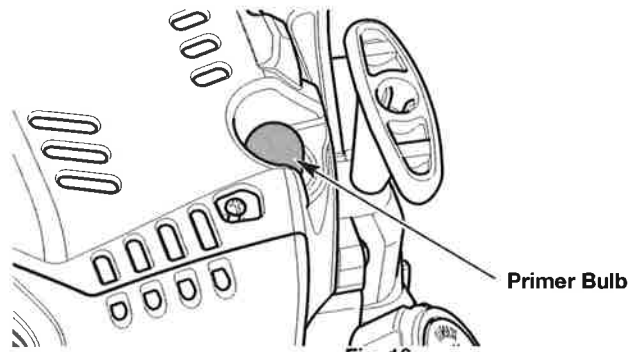

Fig. 16
3. Slowly press and release the primer bulb **10 times** (Fig. 16).